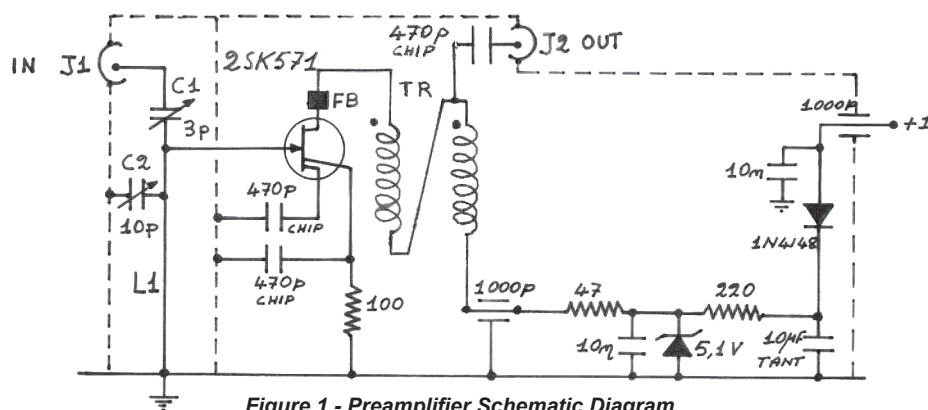
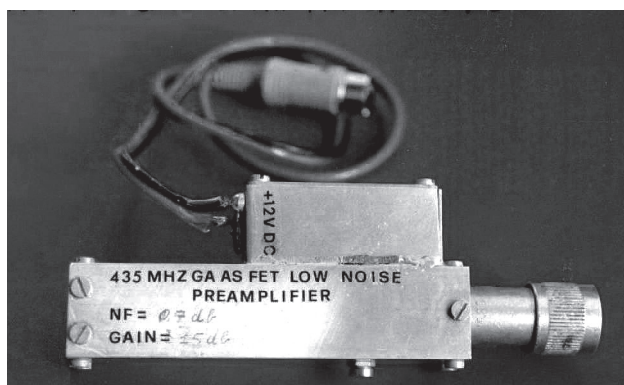
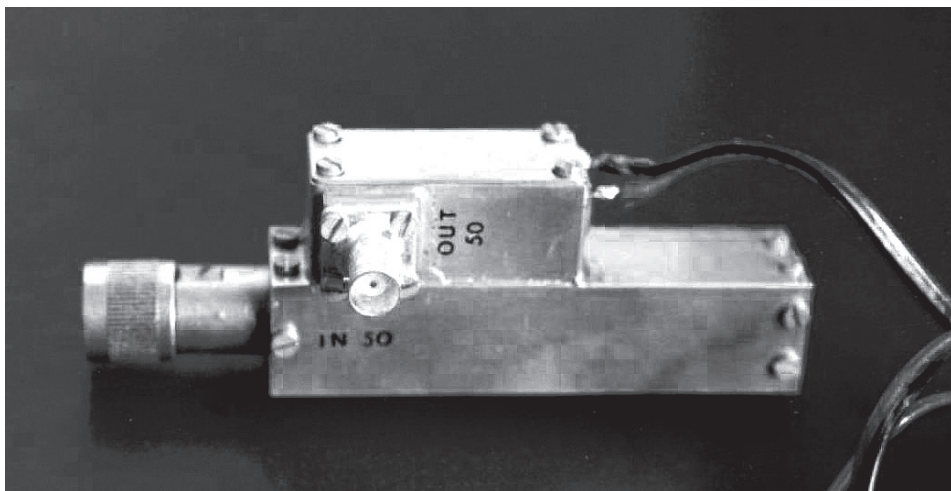

Figure 1 - Preamplifier Schematic Diagram
Figure 2 - External View of Assembled Preamplifier
Figure 8 - External View of Assembled Preamplifier
The original preamplifier shown in Figure 1 and Figure 2 can use either the 2SK571 GaAsFET from NEC or its professional version, the NE 72089A. For top performance, however, it is best to use either a more costly 2SK406 or a NE 71083. By the way, the well-known family of MGF-1302, MGF-1402, or MGF-1502 GaAsFETs works equally well with a very small difference in NF and G.
This preamplifier was also tested with the ATF-1036. It works equally well provided the gate polarization (i. e. the resistor between source and ground shown in the Figure 1) is 47 Ω . Both source bypass capacitors are leadless 470 or 1000 pF round disc ceramic while the drain is supplied with 3.9 volts.
As shown in Figure 1, the input circuit with capacitors C1 and C2 and the cavity line L1 are the heart of this cavity preamplifier.
Transformer TR is wound with bifilar wire so be careful when connecting the end of one winding to the beginning of the other winding. The black dot in Figure 1 indicates the beginning of both bifilar windings, which are made using #32 A.W.G. (B&S) enameled wire.
As shown in Figure 1, the output of the preamplifier is taken from the center of
As shown in the Figure 1, the gate polarization is obtained by a voltage drop across a 100 Ω chip resistor while both source leads are bypassed to ground through the two high-Q 470 pF ATC chip porcelain capacitors.
The input N male connector (J1 on Figure 1) is also critical and it must be a type UG21-B/U with Teflon™ insulation and a captivated inner pin. This pin is very important so care must be taken not push on it or pull it towards the capacitor C1 while connecting J1 to the N relay or the antenna female connector.
All components of the Figure 1 such as resistors, capacitors, and the zener diode are enclosed in a small box shown in Figure 7. This box is made from a thin brass sheet and soldered on top of the square tubing of the cavity (see Figure 5) near the GaAsFET. This is done to keep the connection as short as possible while the RF output is taken through a 470 pF ATC porcelain capacitor and a female BNC connector as shown in Figure 8.
3. Unsolder one terminal of the 47 Ω resistor from the secondary of transformer TR in Figure 1. Connect that resistor in series with a milliammeter which has, at most, a full-scale range of 50 mA.